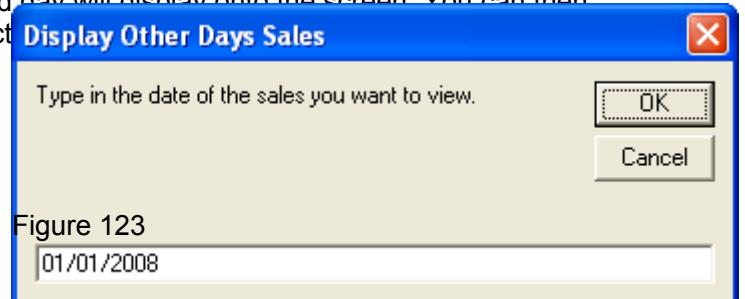

Figure 123
3. A screen will display prompting you to key in the appropriate date select the 'OK' button to continue (see Figure 123).